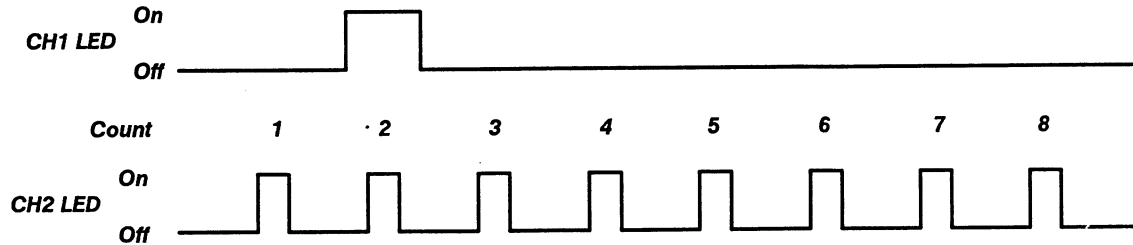

Figure 3-8 – Sample LED Fault Code Timing Diagram
- If the amplifier Kernel Tests detect a fault, then the CH 2 LED is flashed eight times to display a fault code. Each time the CH 2 LED turns on, count the occurrences. If the CH 1 LED is lit during a cycle of the CH 2 LED, then the test corresponding to the current count accumulated is the one which failed. Refer to the timing diagram in Figure 3-8 for an example LED fault code. The timing diagram illustrates a test number 2 failure.